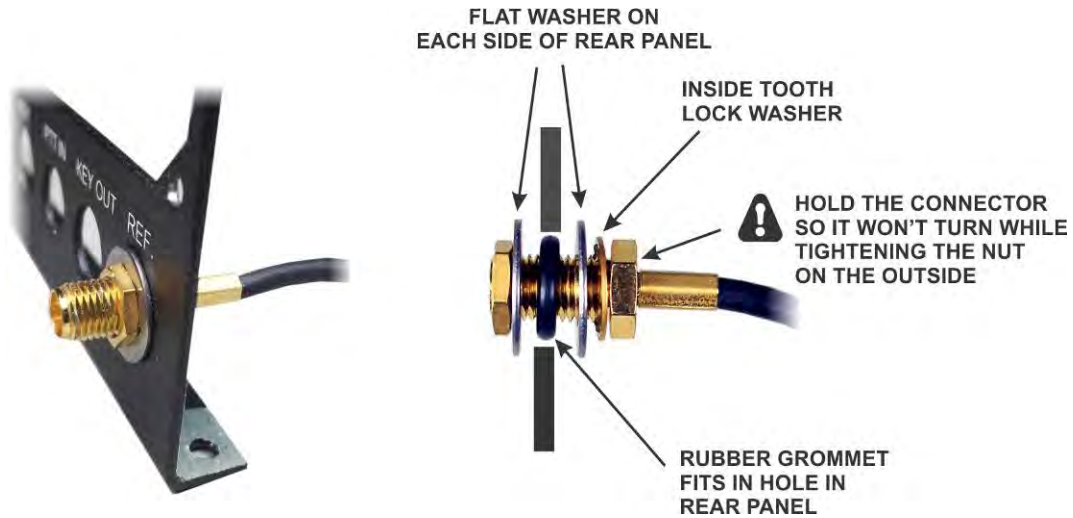

Figure 47. Mounting the K3EXREF SMA Connector.
- Open your K3EXREF Option kit and retrieve the SMA-TMP cable and its associated hardware (see Figure 47).
- Mount the SMA connector in the REF opening on the rear panel as shown in Figure 47.
- ⚠ Hold the connector so it cannot turn while tightening the nut on the outside of the rear panel so the connector cannot turn and stress the coaxial cable (see Figure 47).**
- If you installed the REF connector for the K3EXREF option (see Figure 47 on page 38), route the coaxial cable across the RF board and up between the front panel shield and the circuit boards as shown in your K3EXREF Installation manual.